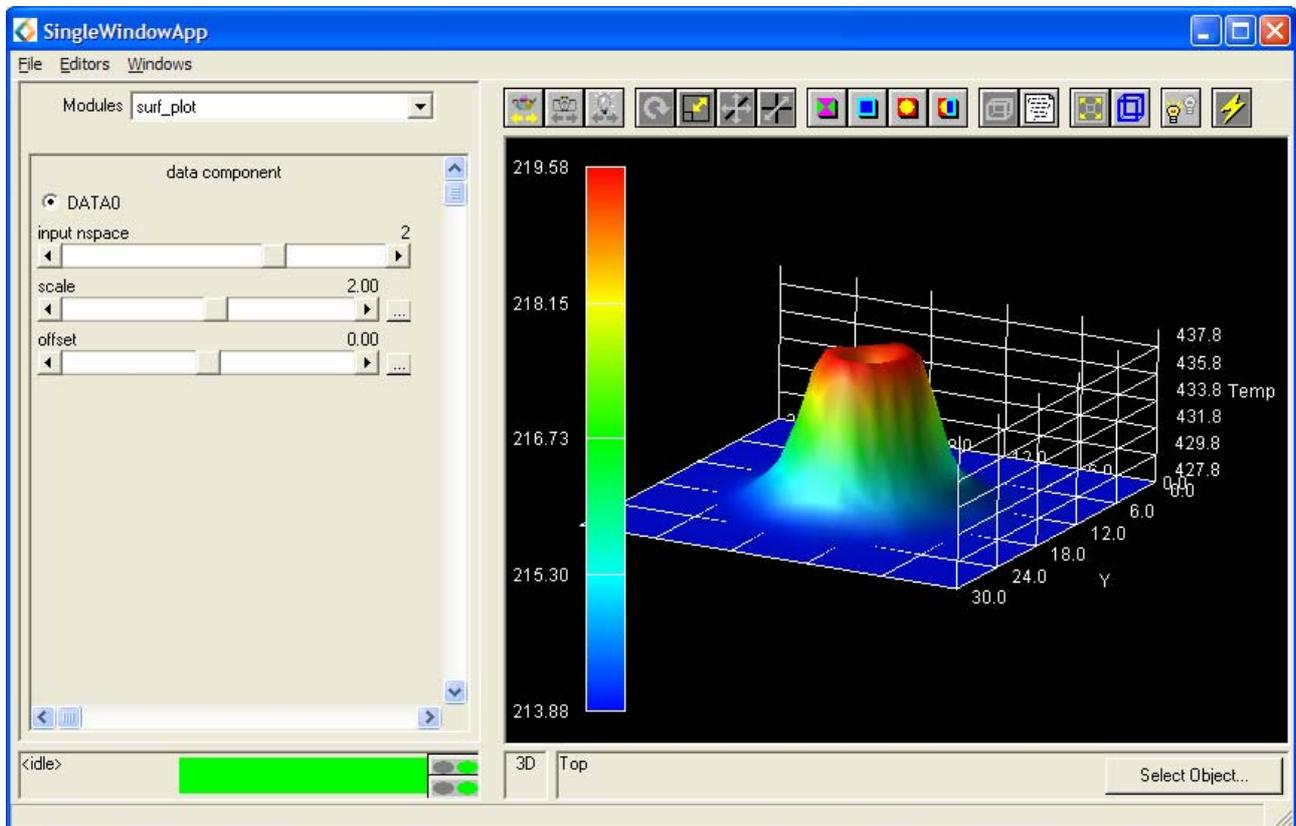

Figure 3.12: surf\_plot Editor Panel
- The module should now provide an image similar to the one shown in Figure 3.12.